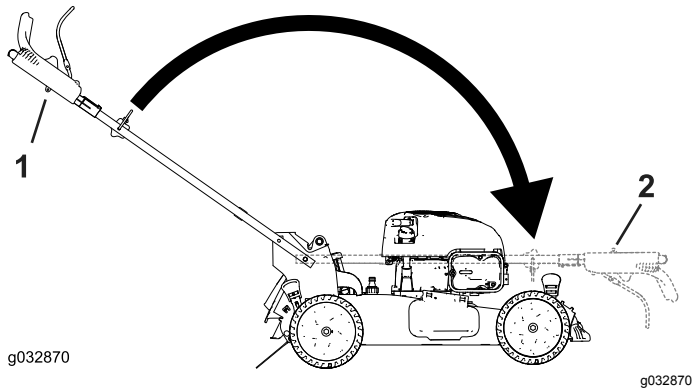

Figure 30
1. Handle knob (2) 2. Carriage bolt (2)
3. Fold the handle by rotating it forward (Figure 30).